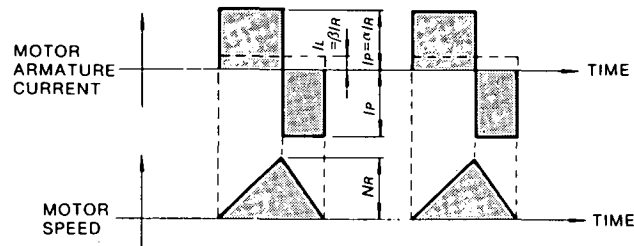

Fig. 4.4 Timing Chart of Motor Armature Current and Speed
- When the motor remains at standstill between cycles of acceleration and deceleration without continuous rated speed running (Fig. 4.4).
The timing chart of the motor armature current and speed is as shown in Fig. 4.4. The allowable frequency of operation "n" can be calculated as follows: